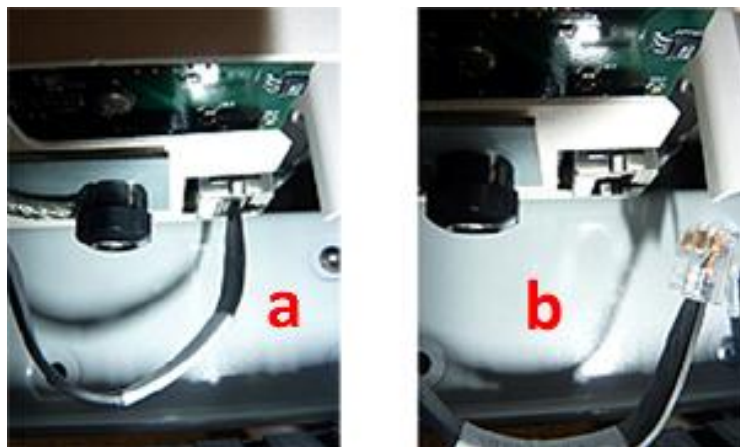

Figure 64. Ethernet cable plugged in and plate screwed on (a); Ethernet cable unplugged (b).
- Click on the **Create New User Check Button** (see Figure 64).
At the bottom rear of the drawer, be sure to unplug the network connection, unscrew the black thumbscrew, and remove the tension plate attached to the thumbscrew before proceeding (*Figure 64*).
Step 4. Reconnect the network cable, insert the tension plate in place, and tighten the black thumbscrew (see *Figure 64*).